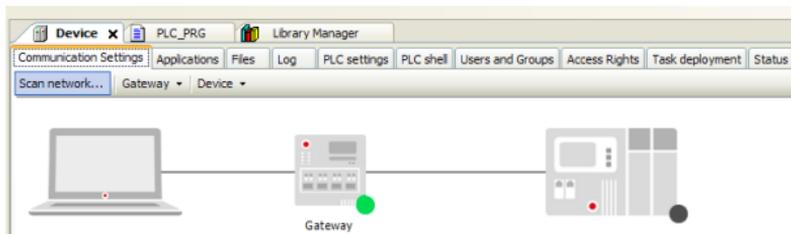

Figure 3-7
- After compiling and checking the PLC program, click **Scan network** on the **Device** tab, as shown in Figure 3-7.